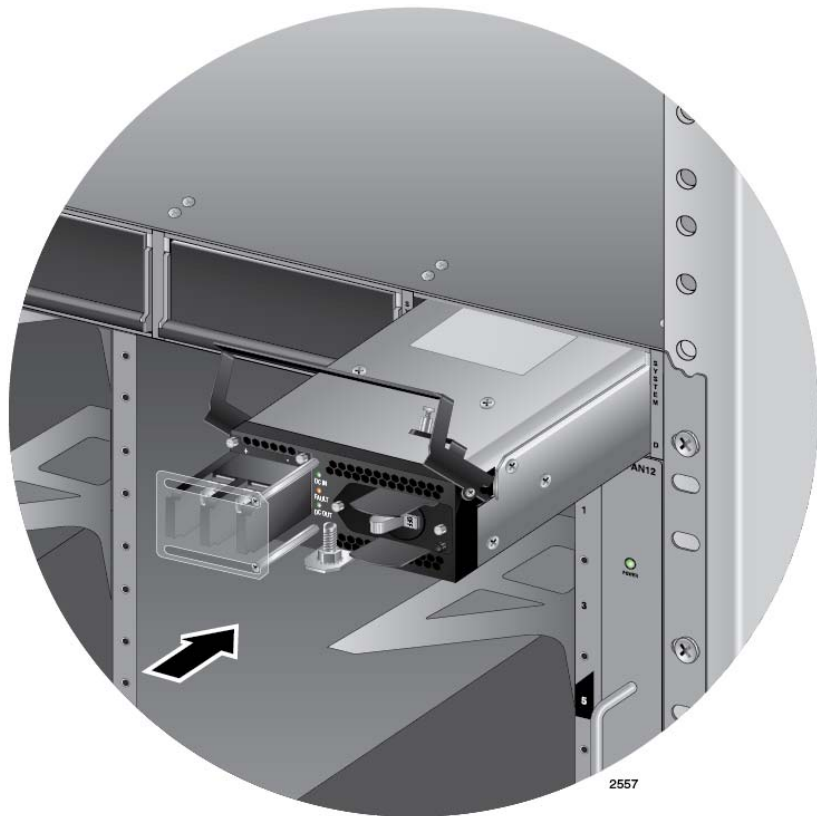

Figure 67. Inserting the AT-SBxPWRSYS1 DC System Power Supply
6. Align and insert the AT-SBxPWRSYS1 Module into slot C or D. Figure 67 on page 132 shows the power supply installed in slot D.